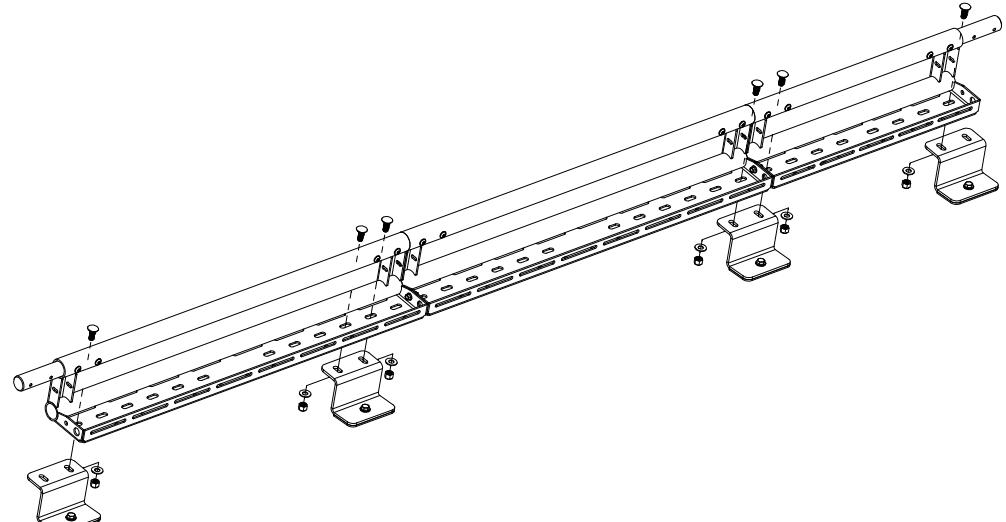

FIG 12
5.1 Mount Side Rails to Van Rails: With assistance, lift the Side Rail Assembly onto the roof. Align the Side Rail Assembly with the mounting holes of the Foot Brackets and secure loosely using **3/8-16" Carriage Bolts, Flat Washers and Nylon Locknuts** as shown in FIG 12+13.